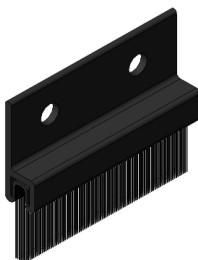
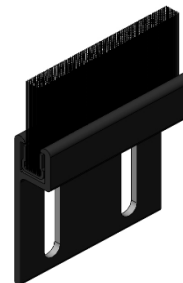

Figure 32:
Figure 33:
Optional to Improve Air and Water Performance, will increase friction when operating. After all panels have been adjusted plum and level and panels close and lock, open panels and install air barriers. Install Air Barrier (Figure 31) into the groove at the top and bottom of the exterior interlockers. Air Barriers (Figure 32) bottom & (Figure 33) top are attached to all sliding interlockers and secured with (2) #6 x 3/8" long self-tapping screws.